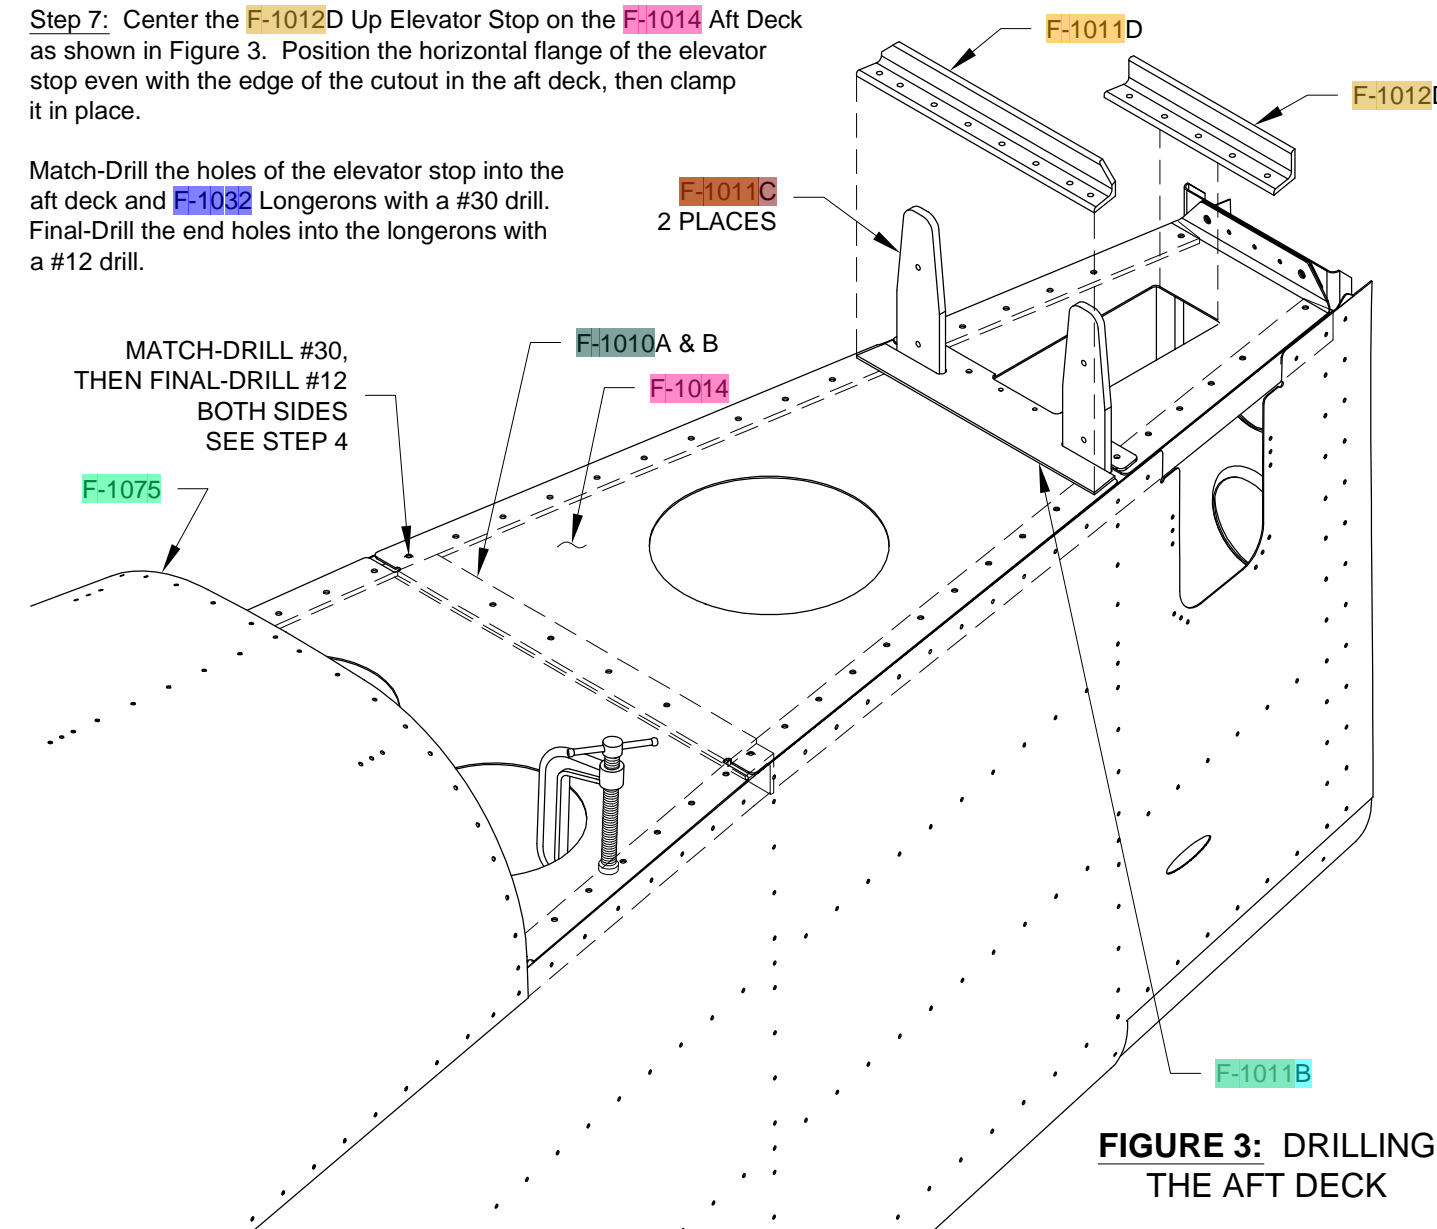

FIGURE 3: DRILLING THE AFT DECK
Step 6: Center the **F-1011D** Attachment Bar Support Angle on the **F-1011B** Stop/ Doubler as shown in Figure 3, then clamp it to the two **F-1011C** Attachment Bars.
Step 7: Center the **F-1012D** Up Elevator Stop on the **F-1014** Aft Deck as shown in Figure 3. Position the horizontal flange of the elevator stop even with the edge of the cutout in the aft deck, then clamp it in place.